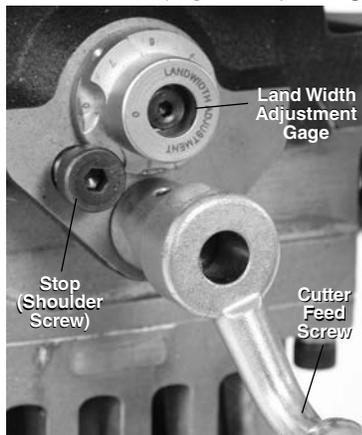

Figure 18 – Land Width Adjustment Gage Setting
6. Set the desired bevel land width (*Figure 18*) using the land width adjustment gage. If set to “0” there will be no land on the end of the pipe. Each step on the land width adjustment gage is approximately a 1/32" (0.8 mm) different from the adjacent step. (1 ~ 0.03" (0.8 mm) land width, 2 ~ 0.06" (1.6 mm), etc.) Move the needed step of the gage so it aligns under the head of the stop.
- Using a smooth continuous clockwise rotation of the cutter feed screw (*Figure 18*); engage the cutter head into the work piece until the stop contacts the land width adjustment gage. Do not use cutting oil or coolant.